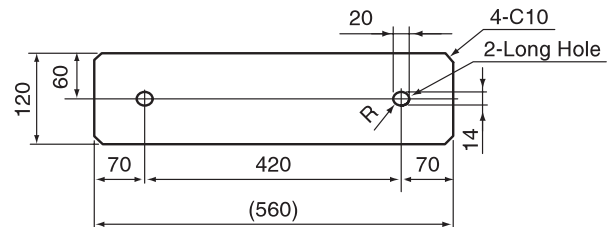

Fig. 4.10 Frame and Base Installation
- (7) The whole of the base of the outdoor unit should be installed on a foundation. When using vibration-proof mat, it should also be positioned the same way. When installing the outdoor unit on a field-supplied frame, use metal plates to adjust the frame width for stable installation as shown in Fig. 4.10.